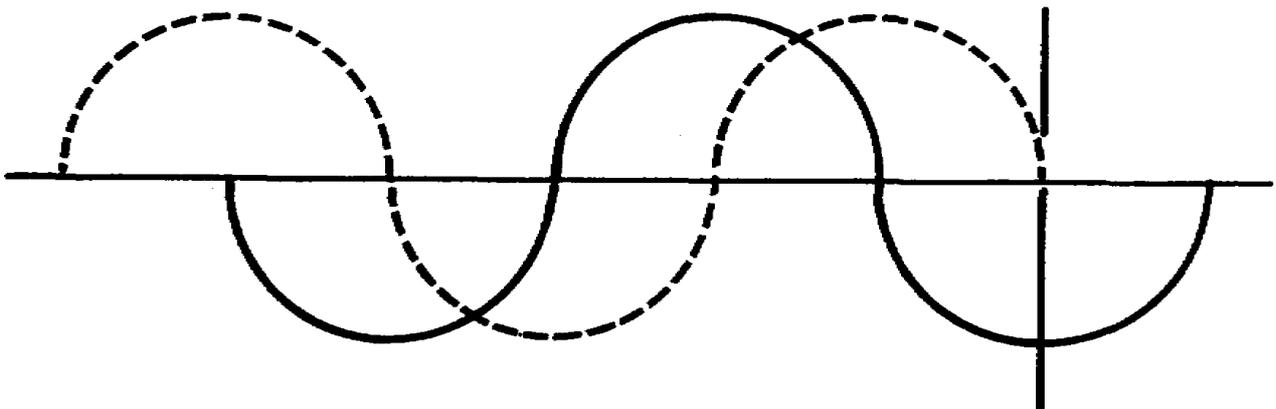
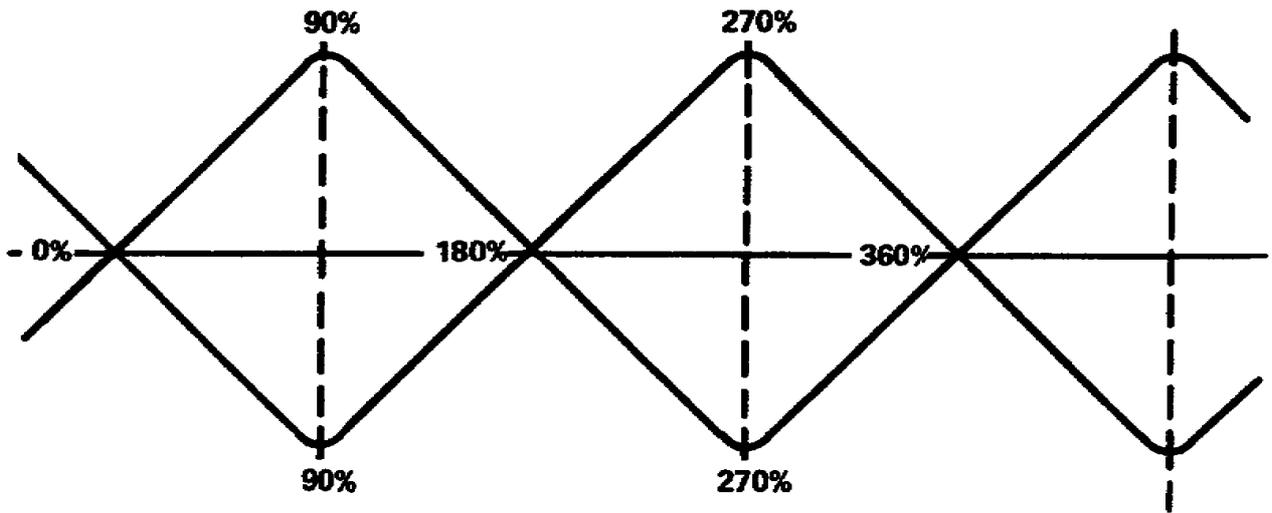

Figure 1-17. Sound waves partially “out of phase”
Figure 1-18. Sound wave 180° “out of phase”
(1) People phase stereo speakers to get full volume. Both speakers push or pull (compress or rarefy) air at the same time.
(2) Rear and front speakers in a car face each other. For full volume the rear speaker pushes while the front speaker pulls. Both speakers are said to be “in phase”, with each other.
b. Interference. In interference, there is no complete union of waves because the compressions and rarefactions occur at different times (fig 1-17). They are occurring off from each other, causing interference. It is said that these sound waves are “out of phase.” The effect of interference is a smaller volume of air moving, hence a loss of overall volume of sound. Sound waves “out of phase”  $180^\circ$ , result in complete cancellation of sound (fig 1-18).